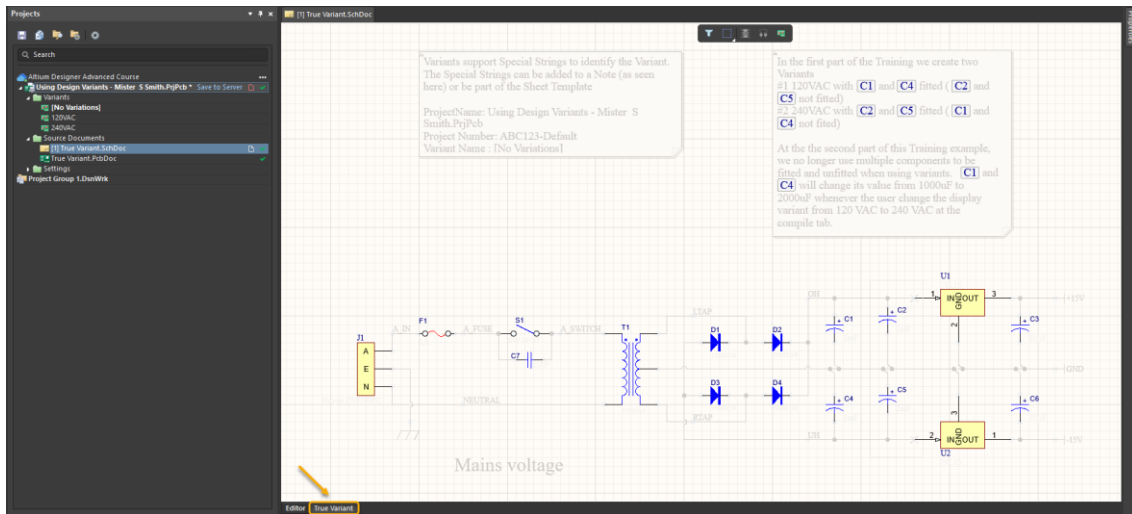

Figure 6. The Compiled Tab selected
24. From the schematic, select the *Compiled* tab named *True Variant*, outlined in Figure 6.